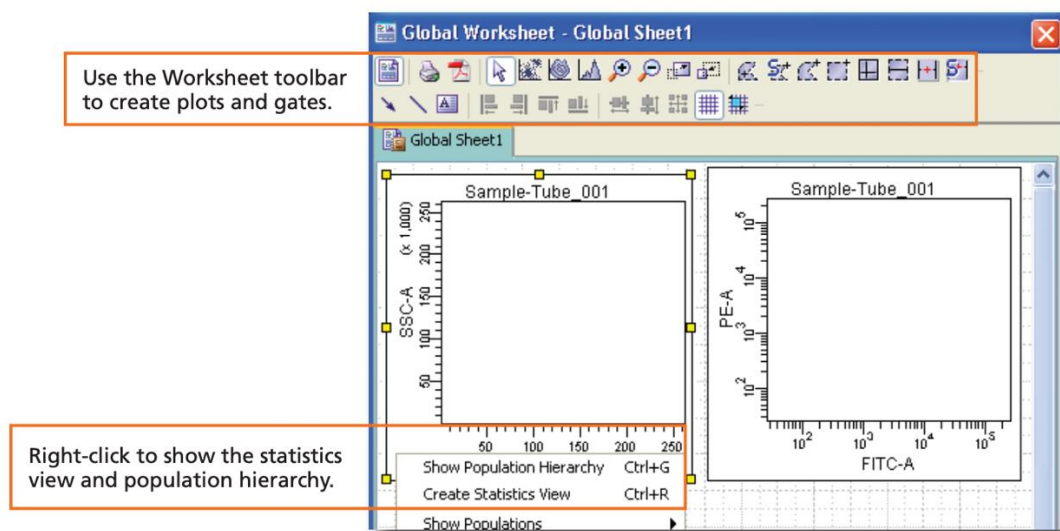

Figure 4 - Worksheet Window in FACSDiva
8. In the **Worksheet Window**, select **Global Worksheet** and create plots and gates to analyse the samples (see Figure 4).